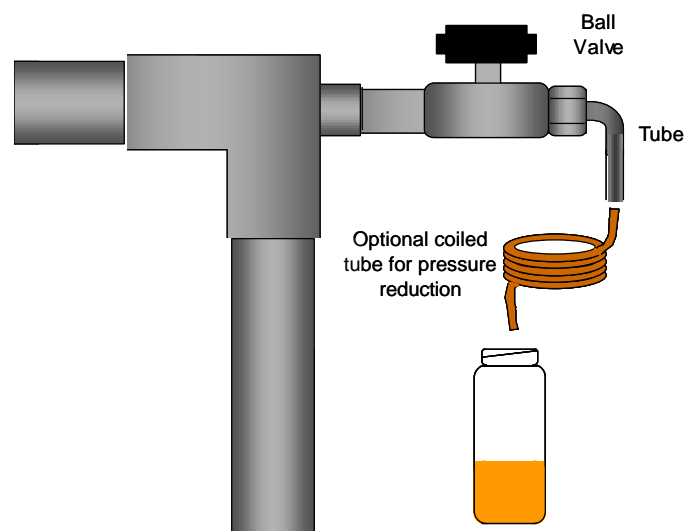

Figure 1
1. Sampling from a permanently installed sampling valve (see Figure 1)